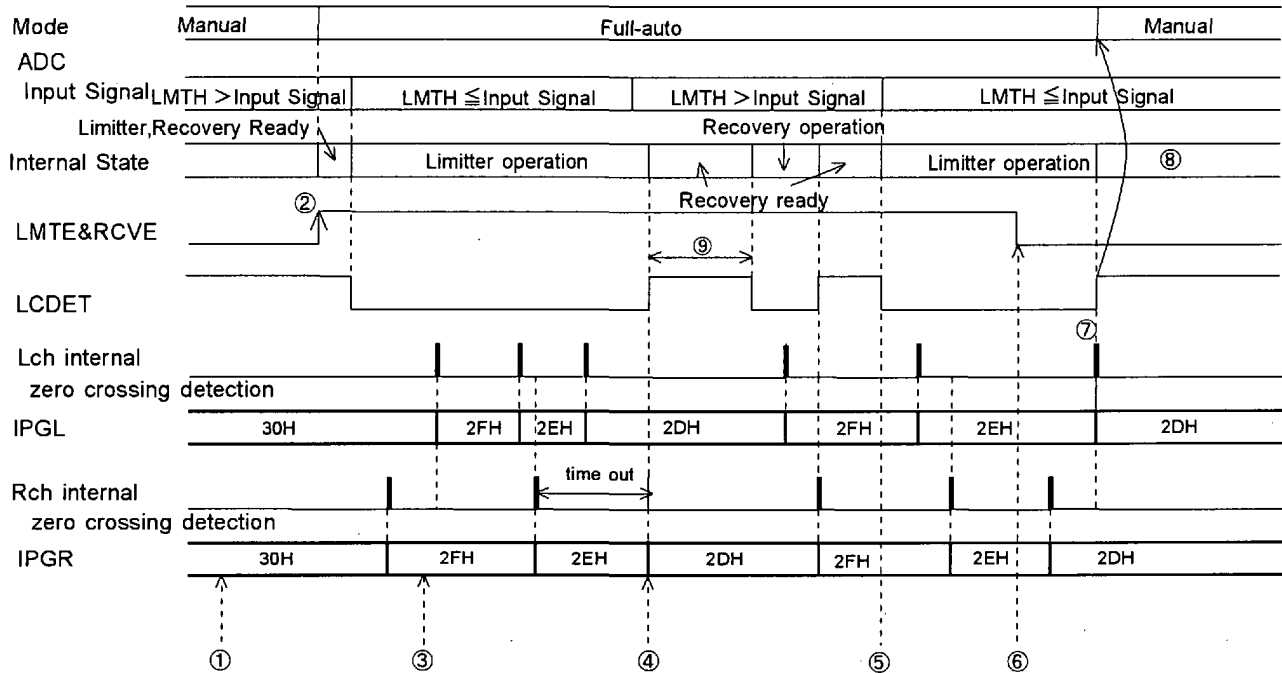

Figure 9 . Control example of full-auto mode operation (LMAT=RATT: 1 step, ZENM=ZELM="1")
- ② WR(LMTE=RCVE="1"): After the registers concerned in the auto limiter operation is set up and confirming the zero crossing flags(ZFIPL, ZFIPR)="1", LMTH and RCVE are set "1".
- ③ WR(IPGA="31H"):As the operation is full-auto mode, writing by uP is ignored.
- ④ The ready of recovery starts.
- ⑤ As the input signal of ADC exceeds LMTH, the recovery operation (in the figure, recovery ready) is discontinued and the limiter operation starts.
- ⑥ WR(LMTE=RCVE="0"):The full-auto mode operation is completed.
- ⑦ In Figure 9 , since "0" is written to LMTE & RCVE during the ATT operation, the operation changes to the manual mode after completing ATT operation. After confirming LCDDET="1", it is possible to change the each register set-up. If LMTE&RCVE are set "0" during the full-auto mode operation, LCDDET becomes "1" after the max "1" ATT/GAIN operation is completed by internal state.
- ⑧ In this case, the input signal of ADC exceeds LMTH, the auto limiter does not operate because of LMTE=RCVE="0".
- ⑨ After the limiter operation is completed, the AK4516A waits for the time set by WTM1-0. If the input signal does not exceed (LMTH - 2dB), the recovery operation is executed. After the waiting time finishes the next waiting time starts immediately. In recovery ready, the waiting timer is reset under the condition of (LMTH - 2dB) ≤ Input Signal < LMTH. And the timer starts under the condition of (LMTH - 2dB) > Input Signal.